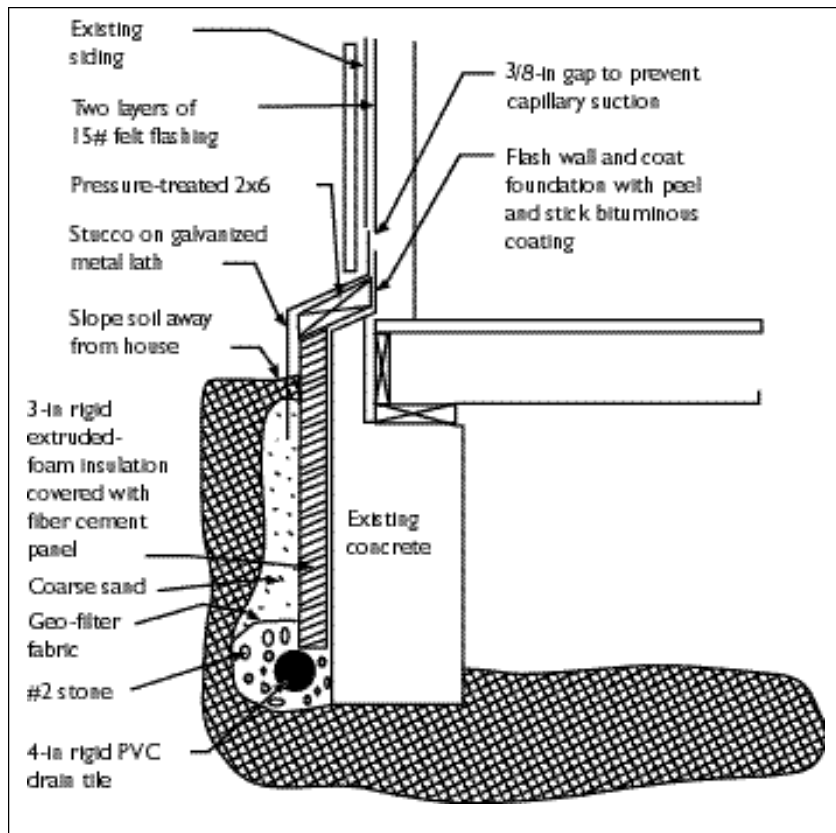

Figure 1. A new drainage system, combined with dampproofing and insulation, will keep moisture out of the crawlspace.
- The exterior of the foundation was excavated by hand to conserve flowers and shrubs. The existing clay tiles, which were used to channel water around the house in the original drainage system, were found to be completely filled with soil. Damp-proofing, insulation, and new drainage were installed (see Figure 1). The ductwork and penetrations through the floor were sealed.